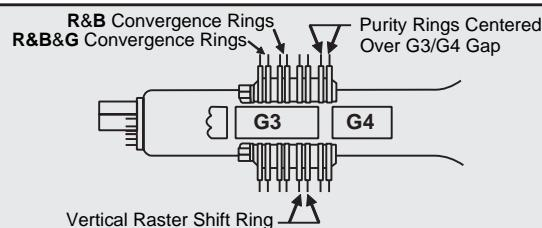
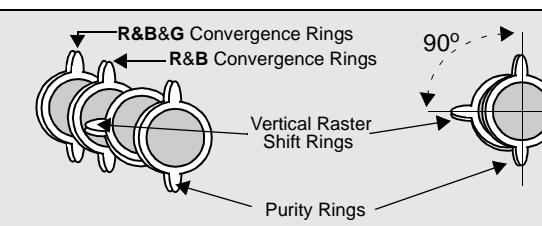
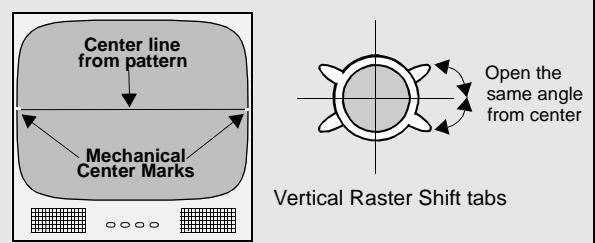

Figure 6. Positioning of Purity/Convergence Assembly (4 Pairs of Rings)
Figure 7. Positioning of Purity/Convergence Assembly (4 Pairs of Rings)
Figure 9. Vertical Raster Shift Adjustment (4 pairs of rings assembly)
For models using 4 pairs of rings, place the vertical raster shift tabs at 3 o'clock (90° from the purity and convergence tabs, see Fig. 6 and Fig. 7)
Adjust center line of the pattern with the mechanical center of the CRT, this center is determined by two marks at the side edges of the screen. To adjust the line, once the vertical raster shift tabs are placed at 3 o'clock to reduce its magnetic field effect (see Fig. 6 and Fig. 7) open the tabs the same angle from the center, until the center line of the pattern becomes a straight line, centered with the marks of the CRT. (see Fig. 9)
**Note:** For models using 4 pairs of rings assemblies see Fig. 6 for details